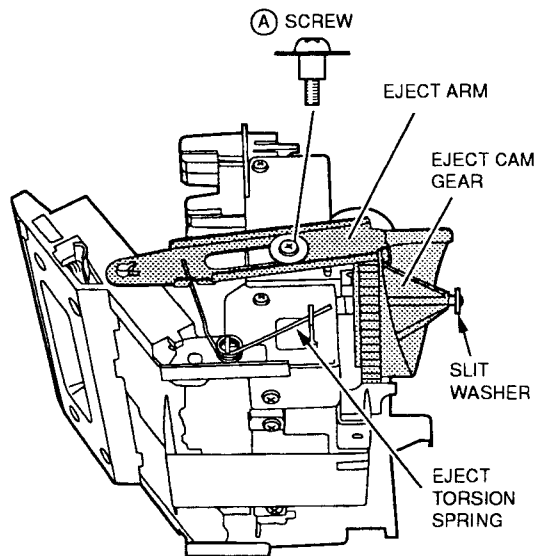

Fig. 3-17
- 1) Remove the A graduated screw and remove the EJECT ARM and the EJECT TORSION SPRING as shown in Fig. 3-17.